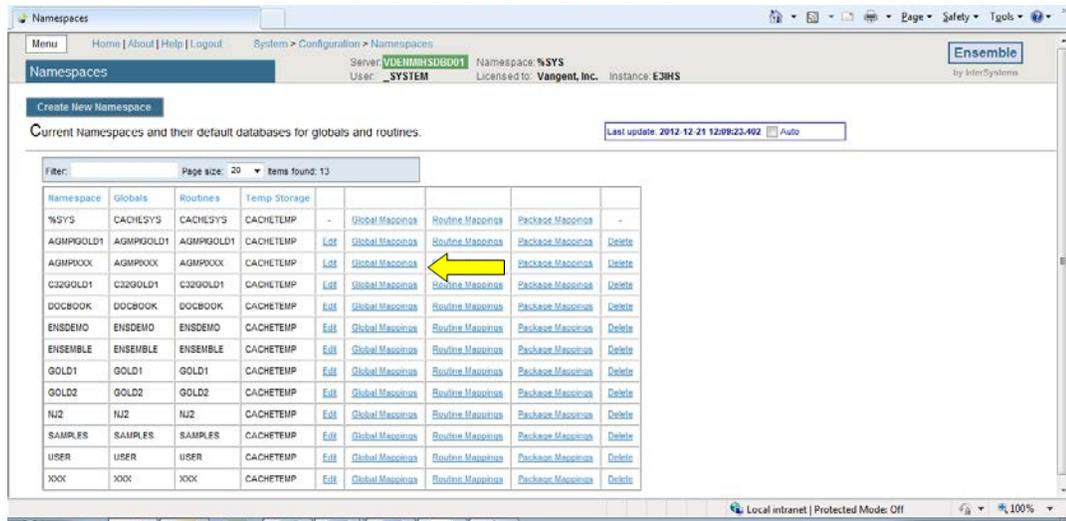

Figure 4-11: Select **Global Mappings**
1. On the **Namespaces** page, click **Global Mappings** in the AGMPIxxx namespace row to display the **Global Mappings** page, as shown in Figure 4-11.